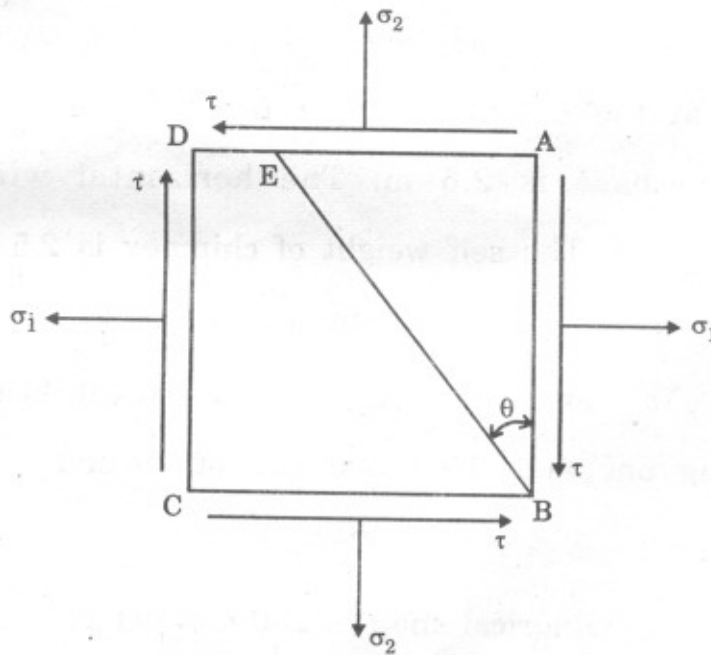

Fig. 7.1
7. (a) As shown in Fig. 7.1, the shear stress along the plane 'BE' is zero. Show that  $\tau = \sigma_1 \times \sigma_2$  if one of the principal stresses is zero.